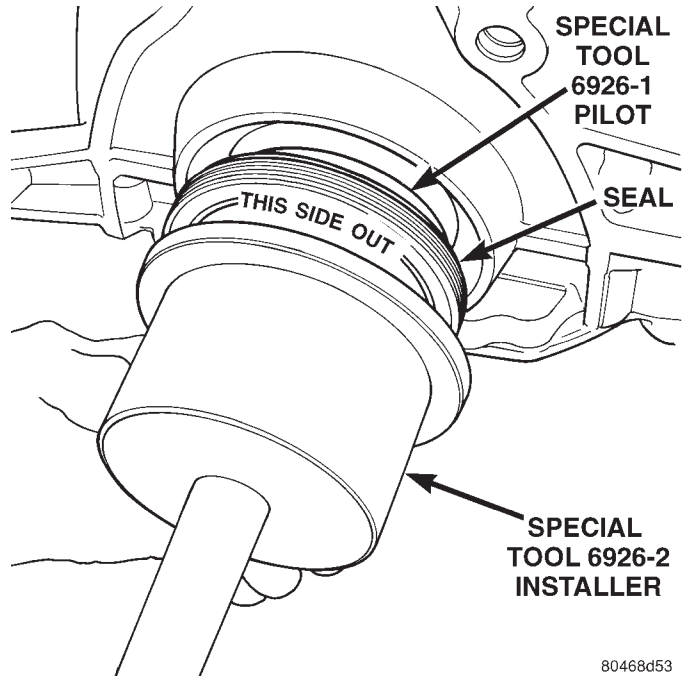

Fig. 76 Crankshaft Seal Special Tool 6926-2
(3) Drive the seal into the block using Special Tool 6926-2 and handle C-4171 (Fig. 76) until the tool bottoms out against the block (Fig. 77).